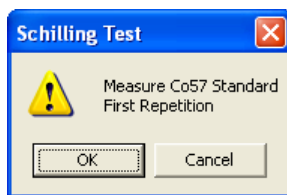

Figure 10-17
6. The screen appears as in Figure 10-17, prompting you to measure the Co57 standard.